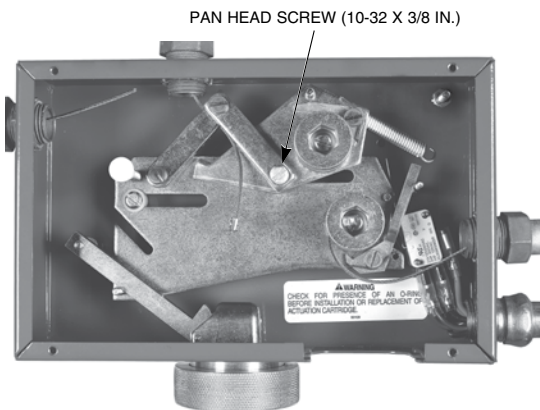

FIGURE 24
4. Fasten slide plate linkage to spring plate using new pan head screw (Part No. 551130) provided in the spring plate assembly kit. See Figure 24.